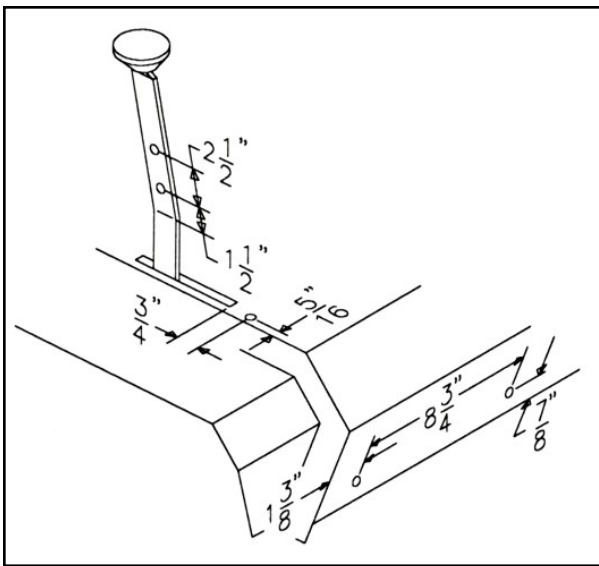

FIGURE 7
a) Drill five 13/64" dia. holes in the tractor, two in the forward speed control arm and three in the body (Figure 7).